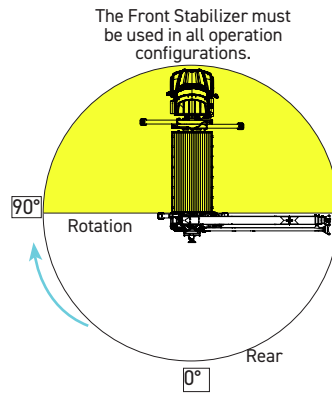

Fig 2
3. Rotate the boom slowly and smoothly to the 90° position as shown in Fig. 2.